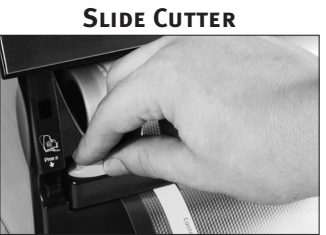

Fig. 2
- 3. Pull out enough bag material to hold item being vacuum packed, plus 4 inches (10.16 centimeters). Lower the Cutter Bar and slide Bag Cutter (i) across the Cutter Bar (See Fig.2).